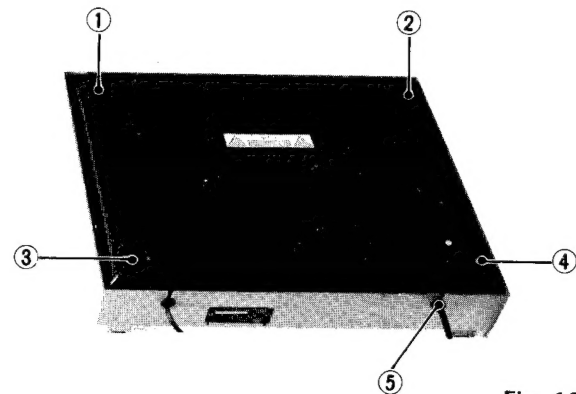

Fig. 12
1. Remove feet (1) ~ (4) shown in Fig. 12.
2. Remove the cord stopper (5) of the signal cord as shown in Fig.12.